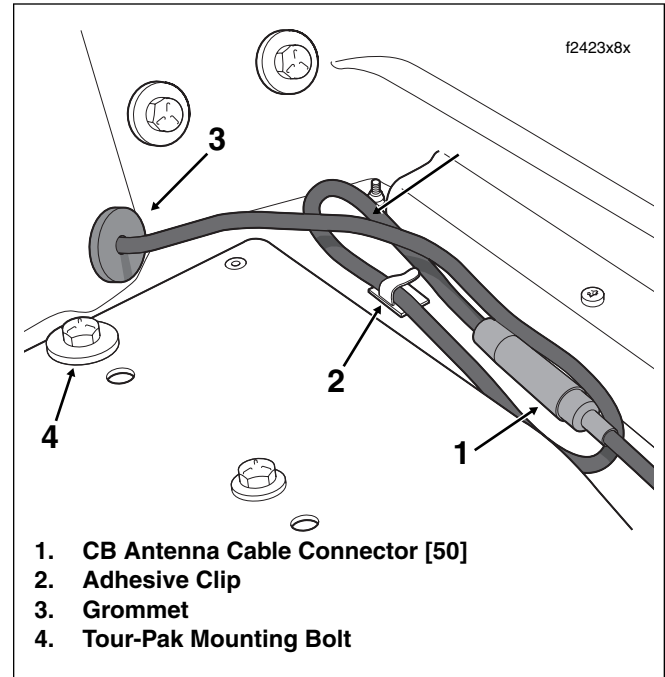

Figure 8-188. Disconnect CB Antenna Cable Connector
10. Disconnect CB antenna cable connector [50]. Release cable from front adhesive clip inside Tour-Pak. See Figure 8-188.
10. Pass CB antenna cable connector through hole at front of Tour-Pak. Capture cable in grommet. Install grommet in hole with the larger OD facing inside. See Figure 8-188.